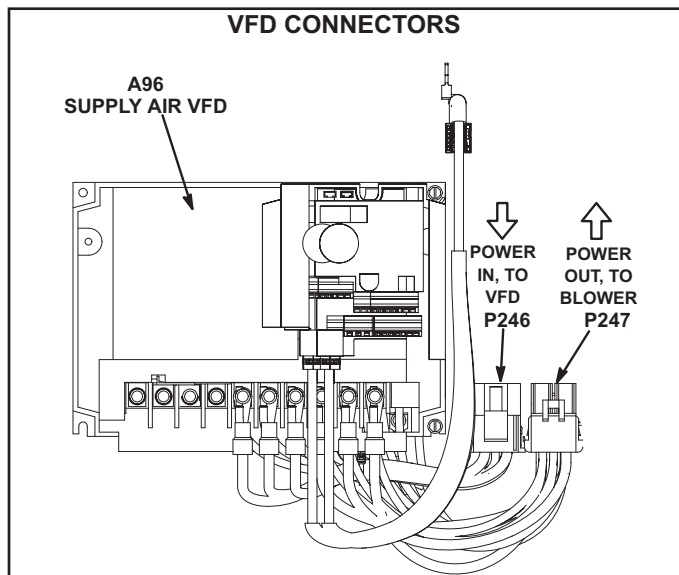

FIGURE 46
- 2 - Locate P246 and P247 connectors near the VFD. See FIGURE 46.